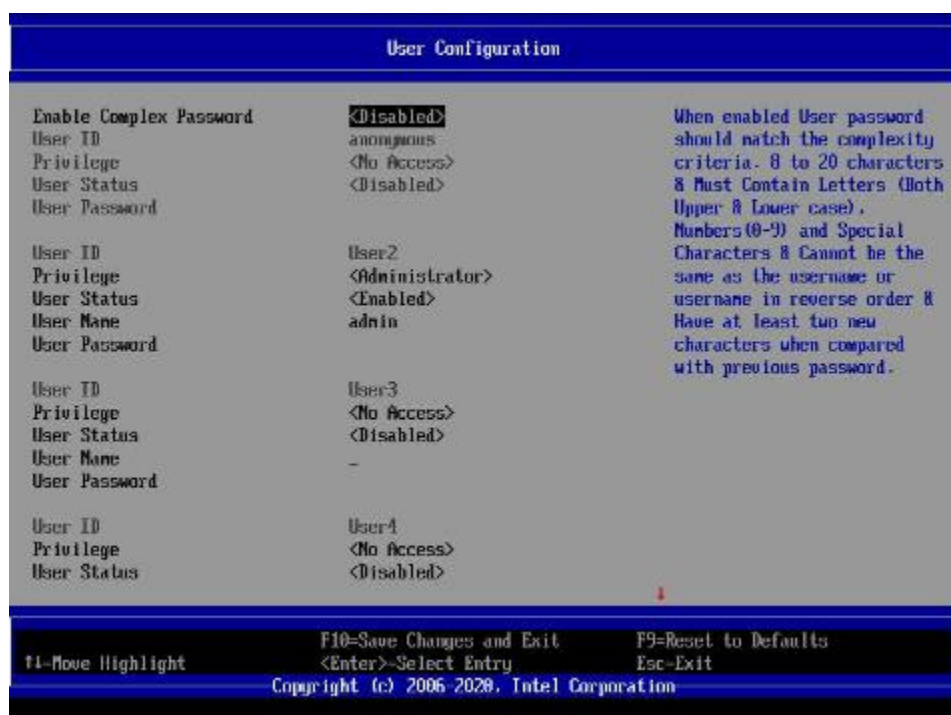

Figure 29. BIOS Setup User Configuration Screen
7. If there is a need to change the User and Password, select **BMC User Settings** to enter the User Configuration screen (Figure 29).